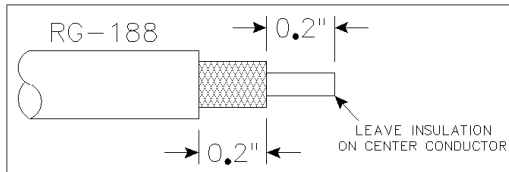

Figure 2-4 TEST PROBE DIAGRAM
1. Fabricate the probe shown in Figure 2-4 and connect it to an RF voltmeter or spectrum analyzer.